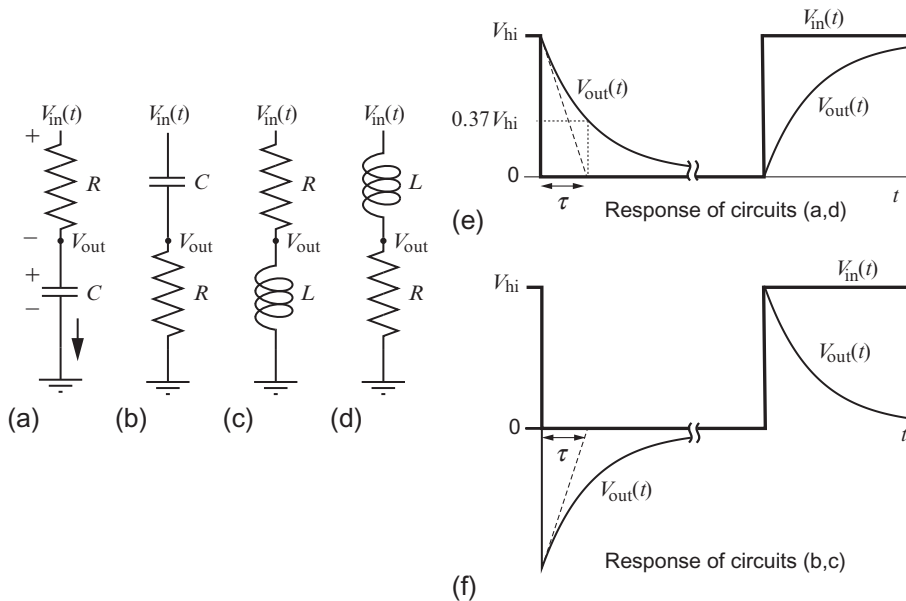
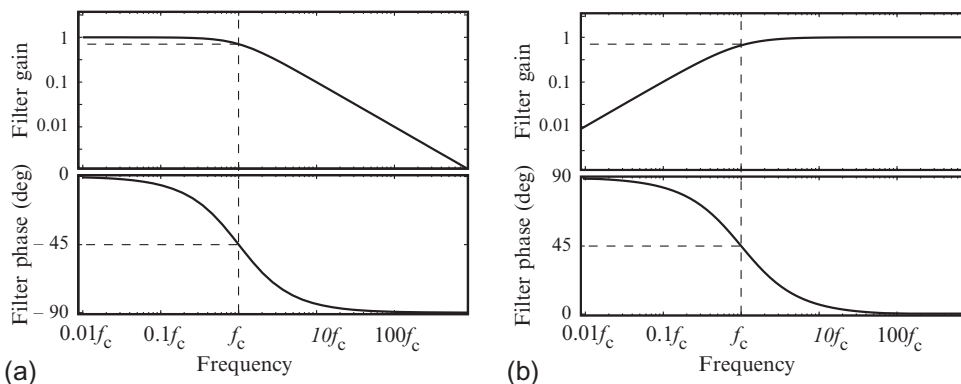

Figure B.5
Figure B.9
p0080 Figure B.5(a)–(d) shows four circuits, each consisting of a resistor  $R$  and either a capacitor  $C$  or an inductor  $L$ . For mechatronics, circuits with resistors and a single inductor are important for understanding the behavior of motors, which have significant inductance. Circuits with resistors and a single capacitor are often used for signal filtering.
p0085 The circuits in Figure B.5(a)–(d) are powered by a time-varying voltage  $V_{in}(t)$  that periodically switches between  $V_{hi} > 0$  and  $0$  V relative to ground. Let us focus on the circuit in Figure B.5(a), where  $V_{out} = V_C$  is the voltage across the capacitor.
p0090 KVL tells us that the circuit in Figure B.5(a) satisfies
p0120 Figure B.5(e) shows a plot of the fall and rise of the voltage  $V_{\text{out}}(t) = V_C(t)$  in the circuit in Figure B.5(a) in response to a  $V_{\text{in}}(t)$  occasionally switching between  $V_{\text{hi}}$  and 0.
p0125 In Figure B.5(b), the positions of the capacitors and the resistors are reversed, so  $V_{\text{out}} = V_R = V_{\text{in}}(t) - V_C(t)$ . The response of  $V_{\text{out}}(t)$  to the switching  $V_{\text{in}}(t)$  is shown in Figure B.5(f). In this case,  $V_{\text{out}}$  spikes to  $-V_{\text{hi}}$  on a falling edge of  $V_{\text{in}}(t)$ , then decays back to zero, and spikes to  $V_{\text{hi}}$  on a rising edge of  $V_{\text{in}}(t)$ , then decays back to zero.
p0130 In summary, the output of the circuit in Figure B.5(a) is a smoothed version of  $V_{\text{in}}(t)$ , where the output gets smoother as  $RC$  gets larger, while the output in circuit in Figure B.5(b) responds most strongly at the times of the switches of  $V_{\text{in}}(t)$ . Smoothing is characteristic of a *low-pass filter*, while strong response to signal changes is characteristic of a *high-pass filter*; see Section B.2.2.
p0135 The circuits in Figure B.5(c) and (d) can be analyzed similarly, now using the constitutive law  $V_L = L dI/dt$  for the inductor instead of  $I = C dV_C/dt$  for the capacitor. It is also important to realize that the inductor does not allow current to change discontinuously, as a discontinuous current implies an unbounded voltage  $L dI/dt$  across the inductor. It takes time to charge or discharge the energy in the inductor,  $\frac{1}{2}LI^2$ , and therefore  $I$  cannot change instantaneously.
p0140 Based on this analysis, we see that the response of the RL circuit in Figure B.5(c) is that shown in Figure B.5(f), but now with a time constant  $\tau = L/R$ . Similarly, the response of the RL circuit in Figure B.5(d) is shown in Figure B.5(e), again with a time constant  $\tau = L/R$ .
p0185 Each of the RC and RL circuits in Figure B.5 is a linear system, with  $V_{in}(t)$  as input and  $V_{out}(t)$  as output. Without derivation (take a linear systems or circuits course!), the frequency responses of the circuits are plotted in Figure B.9, where Figure B.9(a) is the frequency response  $G(f)$  and  $\phi(f)$  of the circuits in Figure B.5(a) and (d), and Figure B.9(b) is the frequency response of the circuits in Figure B.5(b) and (c). Note that the frequency and gain
f0045 (a) The frequency response of a first-order low-pass filter, e.g., the circuits in Figure B.5(a) and (d). (b) The frequency response of a first-order high-pass filter, e.g., the circuits in Figure B.5(b) and (c).
- p0190 The frequency response in Figure B.9(a) corresponds to a *low-pass filter* (LPF). This name comes from the fact that low-frequency sinusoids are passed from the input to the output with little change:  $G \approx 1$  and  $\phi \approx 0$ . As the frequency increases, the gain drops and the output signal begins to lag the input signal ( $\phi < 0$ ). At the *cutoff frequency*  $f_c = 1/(2\pi\tau)$ , where  $\tau = RC$  for the RC circuits and  $\tau = L/R$  for the RL circuits, the gain has dropped to  $G(f_c) = 1/\sqrt{2}$  and the phase has dropped to  $\phi(f_c) = -45^\circ$ . Beyond the cutoff frequency the gain drops by a factor of 10 for every increase in the frequency by a factor of 10, so  $G(10f_c) \approx 0.1$  and  $G(100f_c) \approx 0.01$ . The phase  $\phi$  continues to drop, asymptoting at  $-90^\circ$  at high frequencies.
- p0195 The frequency response in Figure B.9(b) corresponds to a *high-pass filter* (HPF). This name comes from the fact that high-frequency sinusoids are passed from the input to the output with little change:  $G \approx 1$  and  $\phi \approx 0$ . As the frequency decreases, the gain drops and the output signal begins to lead the input signal ( $\phi > 0$ ). At the cutoff frequency  $f_c = 1/(2\pi\tau)$ , the gain has dropped to  $G(f_c) = 1/\sqrt{2}$  and the phase has risen to  $\phi(f_c) = 45^\circ$ . Beyond the cutoff frequency the gain drops by a factor of 10 for every decrease in the frequency by a factor of 10, so  $G(0.1f_c) \approx 0.1$  and  $G(0.01f_c) \approx 0.01$ . This means that DC (constant) signals are completely suppressed by the filter. The phase  $\phi$  continues to rise with decreasing frequency, asymptoting at  $90^\circ$  at low frequencies.
- p0200 Low-pass and high-pass filters are useful for isolating a signal of interest from other signals summed with it. For example, LPFs can be used to smooth and suppress high-frequency noise on a sensor line. HPFs can be used to suppress DC signals and only look for sudden changes in a sensor reading, just as the output depicted in Figure B.5(f) is largest when the input suddenly changes value and drops to zero when the signal is constant.
- p0205 The LPFs and HPFs illustrated in Figure B.9 are called *first order* because the circuit response is described by a first-order differential equation, e.g., (B.1). First-order filters have relatively slow *rolloff*—in the cutoff frequencies, the filter gain drops by only a factor of 10 for every factor of 10 in frequency. By using more passive elements, it is possible to design second-order filters with a gain rolloff of 100 for every factor of 10 in frequency, which are better at suppressing signals at frequencies we want to eliminate with less effect on signals at frequencies we want to preserve. Higher-order filters, with even steeper rolloff, can be constructed by putting first- and second-order filters in series. LPFs and HPFs can also be combined to create *bandpass* filters, which suppress frequency components below some  $f_{\min}$  and above some  $f_{\max}$ , or *bandstop* or *notch* filters, which suppress frequency components between  $f_{\min}$  and  $f_{\max}$ .